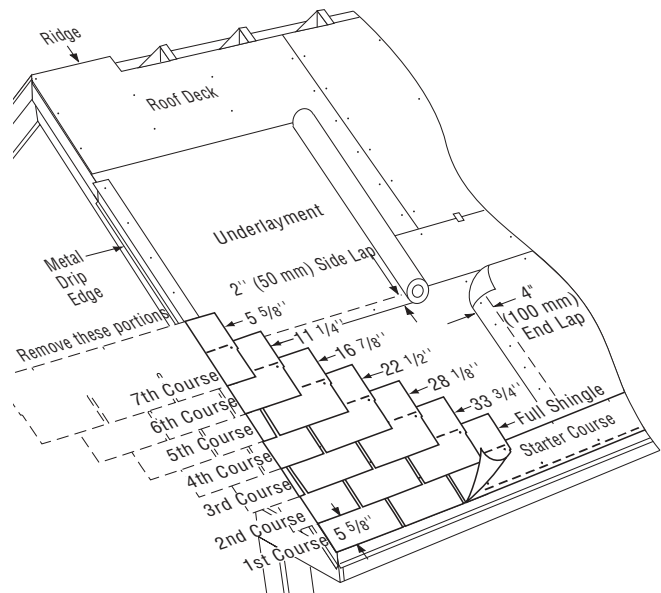

Figure 12-14: Applying the first 7 courses on a standard slope.
1ST COURSE: Apply a full shingle at the lower left corner of the roof. Make tabs lie flush with the edges of the starter course. In this way, sealant on the starter strip will adhere to the first-course tabs and help keep them from lifting in high winds (*Figure 12-14*).
1. Cut 5⁵/₈" off the left side of a shingle and install this 33³/₄" piece over and above the first-course shingle, in line with the left edge of the starter course (*Figure 12-14*).
2. Cut 11¹/₄" off the first shingle of the third course, 16⁷/₈" off the first shingle of the fourth course, 22¹/₂" off the first shingle on the fifth course, 28¹/₈" off the first shingle of the sixth course, and 33³/₄" off the first shingle of the seventh course. Apply each with its left edge in line with the previous course (*Figure 12-14*).